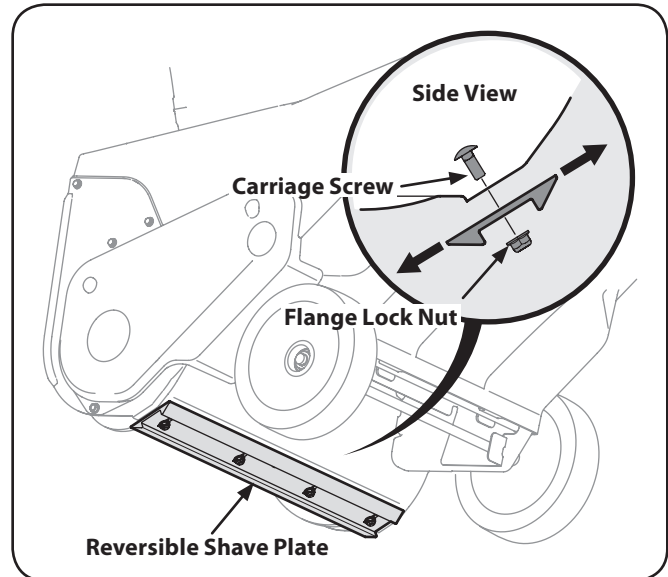

Figure 7-5
3. Remove the four carriage bolts and flange lock nuts which attach it to the snow thrower housing. See Fig. 7-5.